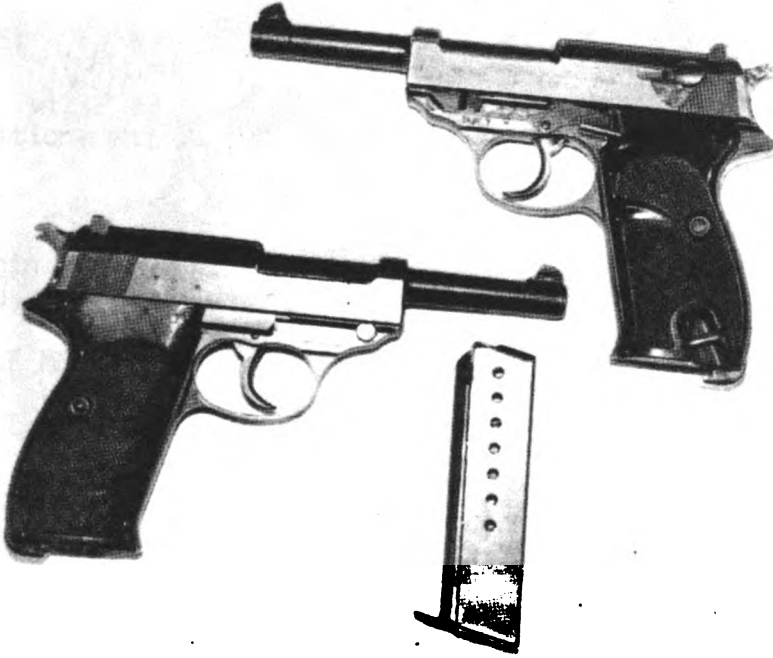

Figure 4
5. Identify the P38. (See fig. 4.)